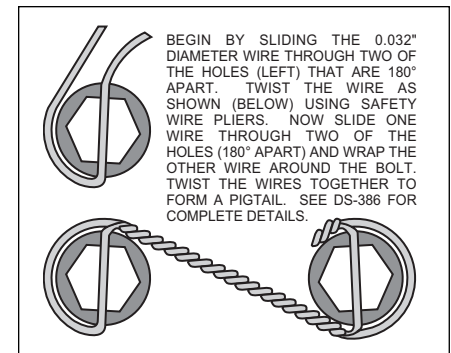

Figure 3. Safety Wire Diagram
- With the larger I.D. side of the rotor (4) facing away from the hat (5), bolt rotor (4) to hat (5) through the backside of the rotor using washers (6) and bolts (7). Torque bolts (7) in an alternating sequence to 180 **in-lb**. Safety wire bolts (7) using standard 0.032 inch diameter stainless steel safety wire as shown in Figure 3. Please refer to Wilwood's data sheet DS-386 (available at www.wilwood.org/ds386.pdf) for complete safety wire installation instructions. Slide the rotor/hat assembly onto the spindle. Check to be sure the hat seats squarely against the hub. Install a couple of lug nuts (finger tighten) to keep the rotor/hat assembly in place while continuing with the installation.
- Install two spacers (9) and one shim washer (10) over each pre-installed stud (11) on the radial mount bracket (2). Slide the caliper (8) in place over the studs and rotors and install the washer (12) and lock nut (13) to hold the caliper in place. The caliper bleed screws should be pointing up. Snug the lock nuts (13) and check that the rotor (4) is centered in the caliper (8). Add or subtract .024" shims (3) as necessary between the caliper mounting bracket (2) and the spindle to center the caliper (8).
- Remove the two caliper center bridge pad retainer bolts, nuts, tubes, and anti-rattle clips from the caliper. Slide the brake pads (14) into place. They should install easily without interference. Check that the outside radius of the brake pad is aligned with the outside diameter radius of the rotor face. Add or subtract shims (10) between the caliper and mount bracket to gain the proper alignment. Reinstall the first center bridge pad retainer and tube while sliding the bolt thru the mounting holes on the end of the anti-rattle clip, screw on the locknut. Push the opposite end of the anti-rattle clip downward and secure the second center bridge pad retainer tube, bolt and locknut on top of the anti-rattle clip, thus holding it firmly against the brake pads. The locknut should be snug without play in the bolt or tube. Be cautious not to over tighten.
- Once all clearances have been checked, remove the wheel, caliper, hat, and rotor from the spindle and hub. Secure the caliper mounting bracket (2) to the spindle with original bolts using red *Loctite*[®] 271. Torque the bolts to 90 ± 5 ft-lb. Reinstall the hat and rotor assembly and again use lug nuts to hold it in place. Reinstall the caliper and torque the caliper nuts (14) to 47 ft-lb.